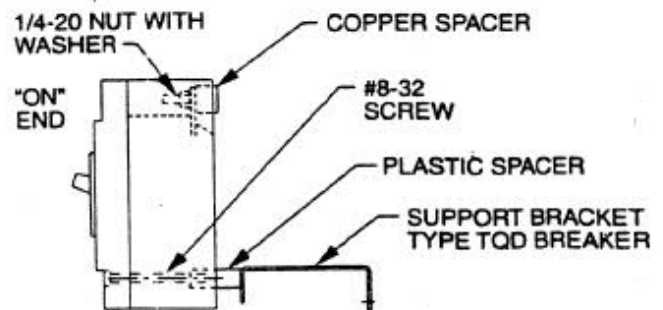

Fig. 1 TQD Breaker Installation
2. Gently tap one (1) TQD plastic spacer into hole on bottom of load (OFF) end of circuit breaker. Plastic spacer is serrated for a press fit.
3. If necessary, remove and discard the lugs from the line (ON) end of the circuit breaker.
5. Position circuit breaker over mounting studs as shown in Fig.1. Assemble, but do not tighten two (2) 1/4" nuts with washers onto the mounting studs.
6. Install and tighten one (1) #8-32 screw through load end of breaker case into metal support bracket below.
7. Torque the two (2) 1/4" nuts previously assembled to 50-60 lb.-in. (5.6-6.8 N-m).